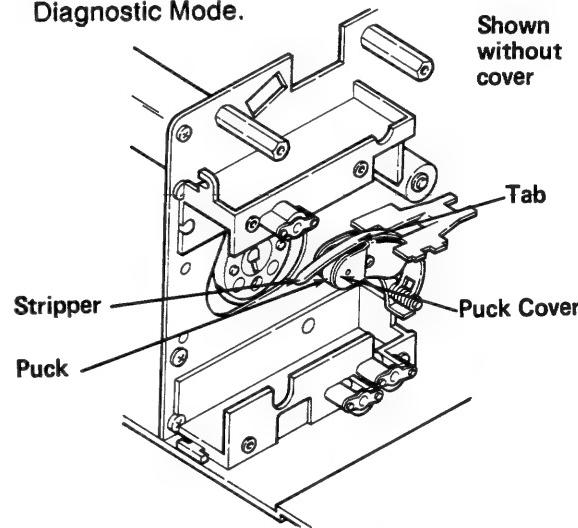

Figure 3-16A
12. Observe that the Stripper does not touch the Puck (Figure 3-16A).
1. If the Stripper touches the Puck, bend the Tab on the Puck Cover upward so that the Stripper does not touch the Puck (Figure 3-16A).